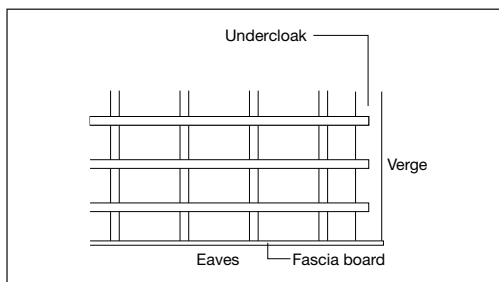

Fig 96 – Batten configuration at eaves
- Fix subsequent battens at a maximum gauge of 250mm (minimum 235mm) up to ridge, where top batten spacing may be less than 250mm to suit ridge detail (Fig 96)